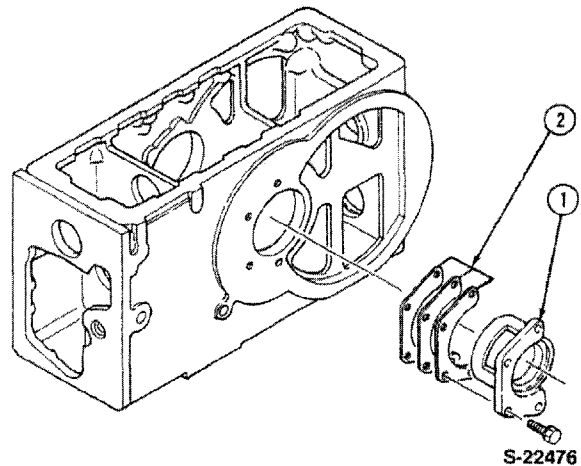

Figure 13
8. Remove the right and left hand differential bearing carrier, Figure 13. Note the number and thickness of the shims located between the bearing carrier and housing on each side for ease of assembly.